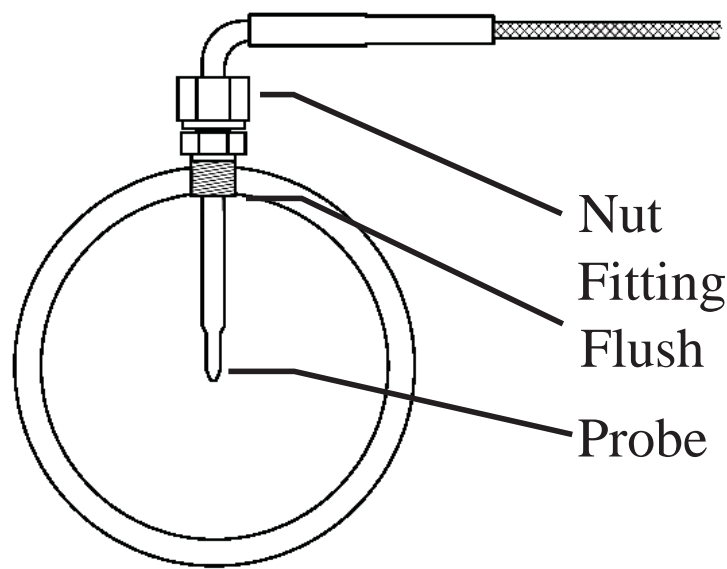

Figure 2 - Probe Insertion
6. Install the probe into the fitting, and tighten the top nut of the fitting just tight enough to keep the probe firmly mounted. (Figure 2)
**NOTE:** Ideally the tip of the fitting would be less than or flush with the inside of the exhaust flow path. (Figure 2)